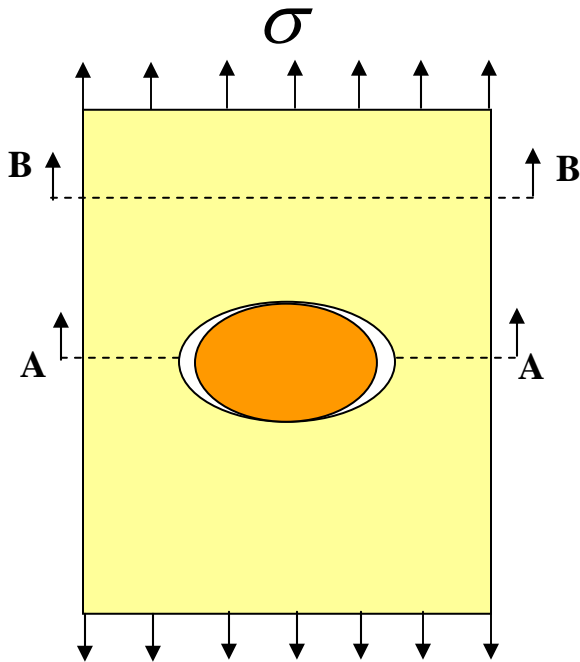
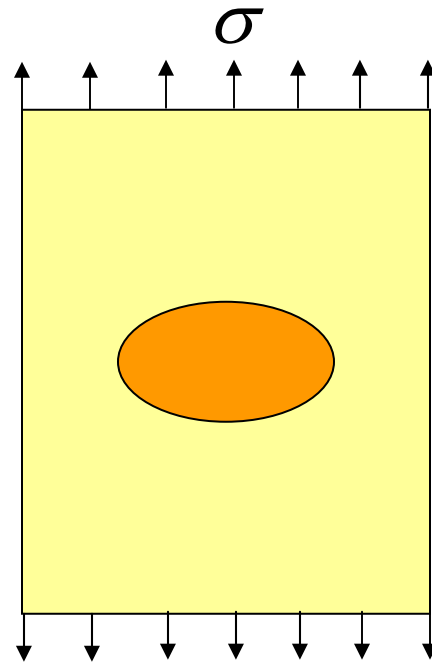

Figure 1-1
Figure 1-2
A plate is loaded by a remote uniform stress field in tension as shown in the figures above. Before the load is applied, the plate has an ellipsoidal hole that either (i) has an ellipsoidal inclusion that just contacts the top and bottom of the hole (Figure 1-1) or (ii) is completely filled by an ellipsoidal inclusion with a perfect fit (Figure 1-2). Assume for parts a-e below that the inclusion material is much stiffer than the plate material and both are homogeneous, isotropic and linear elastic.
- For the case at upper left, please qualitatively sketch  $\sigma_{yy}$  as a function of  $x$  along both of the sections A-A and B-B (far from hole) for the case in Figure 1-1. What principle allows us to neglect stress concentration at cross sections that are far removed from the hole?
- What specific material properties are relevant to solving the problem in Figure 1-2? Explain.
- If the inclusion is perfectly bonded to the matrix in the problem in Figure 1-2, please draw a qualitative sketch of remote stress-strain behavior (e.g. section B-B) and compare with the remote stress-strain curve for the same geometry for the case when the inclusion has a frictionless, unbonded interface. Are they different? Explain.